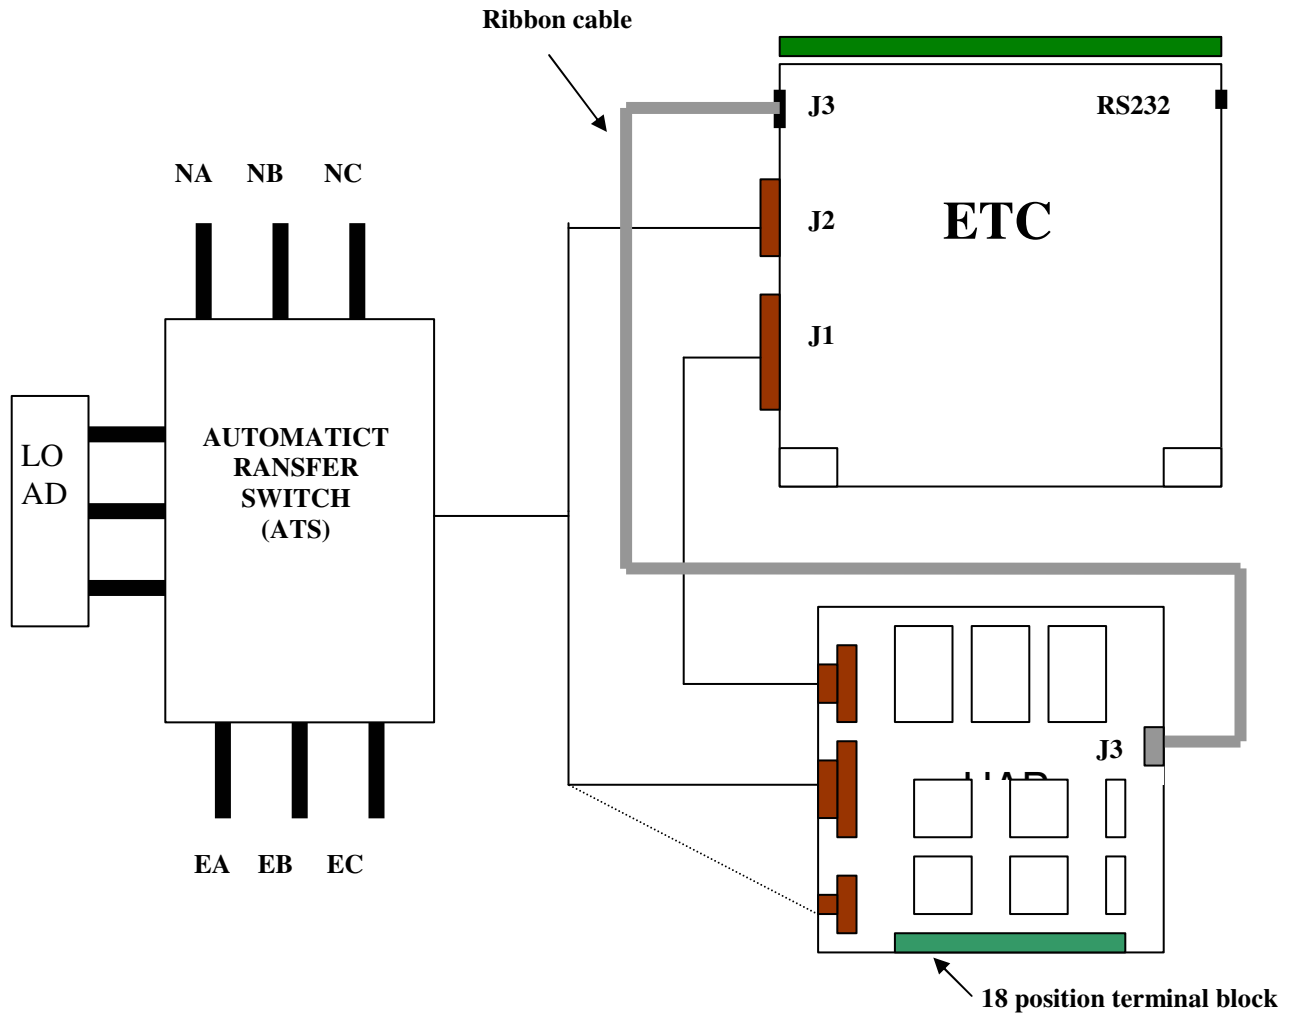

Figure 15 UAP and PMCP interface
Note: The UAP is controlled and powered by the PMCP via ribbon cable connected between J3 of the PMCP and J3 of the UAP (refer to Figure 15).
- 1.0 The user must connect the ribbon cable from the UAP J3 connector to the PMCP J3 connector as shown in Figure 15.